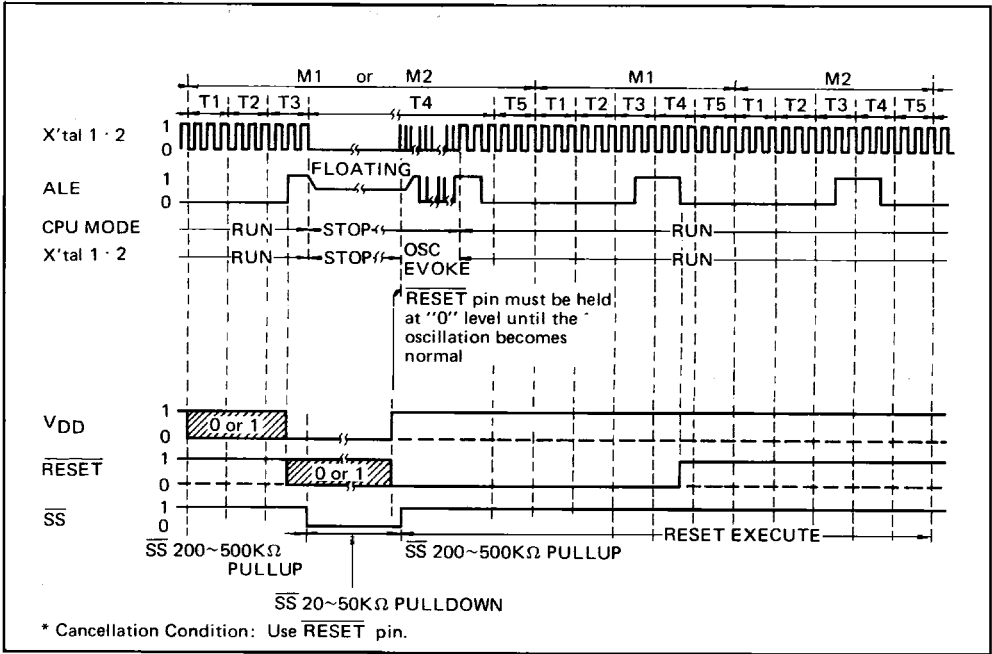

Fig. 4-5 Hardware Power-Down Mode Timing Chart
- (1) Use of $\overline{\text{RESET}}$ pin
- The clock generator is activated and the CPU started up when a "1" level is applied to the V_{DD} pin while a "0" level is input to the $\overline{\text{RESET}}$ pin. If this "0" level is kept applied to the $\overline{\text{RESET}}$ pin until oscillation become stable, the CPU will be reset and will start executing from address 0. The timing chart is outlined in Fig. 4-5.
- (2) Use of the $\overline{\text{INT}}$ pin during external interrupt enabled status (i.e. following execution of ENI instruction)